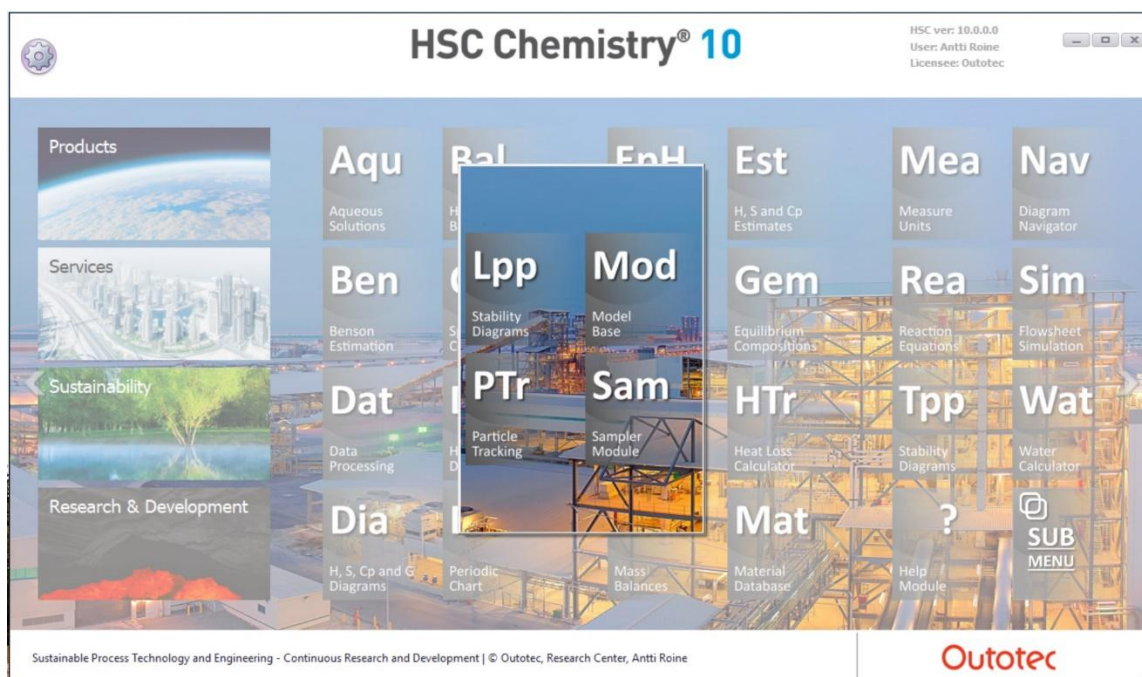

Figure 12. Rarely used module tiles can be easily moved into Sub Menu.
- The new Sub Menu lets the user easily hide rarely used module tiles. See **Figure 12**.